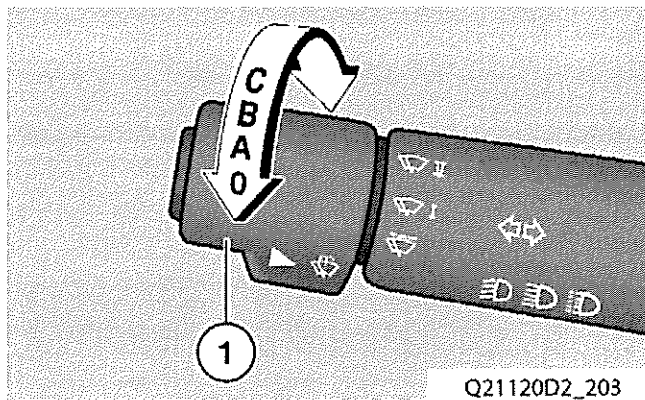

Fig 40 Operating the windscreen wipers
90 Refer to Fig 40. The windscreen wipers are operated by turning the handle (1) of the steering column stalk to select the desired position.